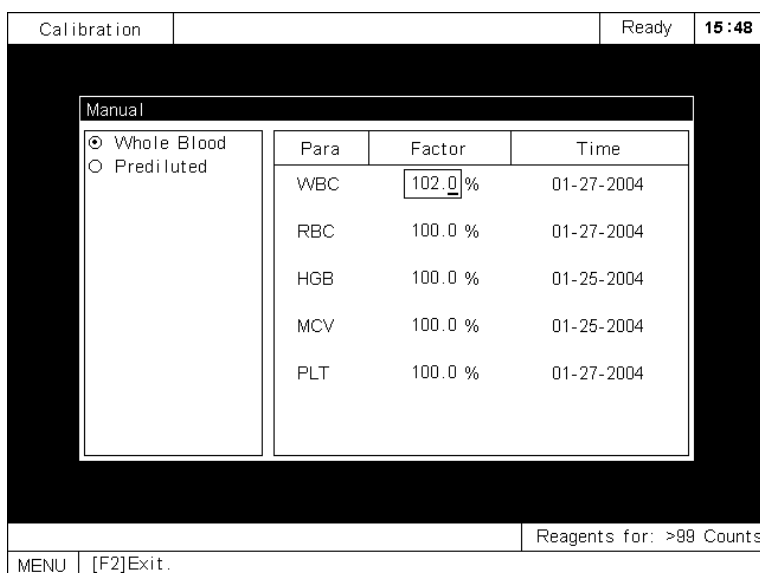

Figure 5-4 Manual screen
2. Press [ENTER] to enter the **Manual** screen, as Figure 5-4 shows.